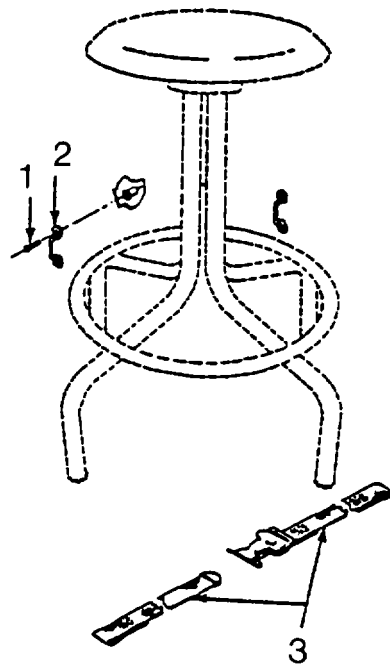

Figure 4-5. Stool Holddown Assembly
a. Inspect. (See Figure 4-5.)
(1) Inspect webbing of strap assemblies (3) on roadside shelter wall for wear, frayed sewing, and decayed fabric.
(2) Inspect fastener loops (2) for secure mounting to roadside shelter wall.
- b. Replace. (See Figure 4-5.)
- (1) Remove screws (1) and fastener loops (2).
- (2) Remove fastener loops (2) from strap assemblies (3).
- (3) Install fastener loops (2) into loops of the strap assembly (3).
- (4) Install and secure fastener loops (2) to shelter wall with screws (1).